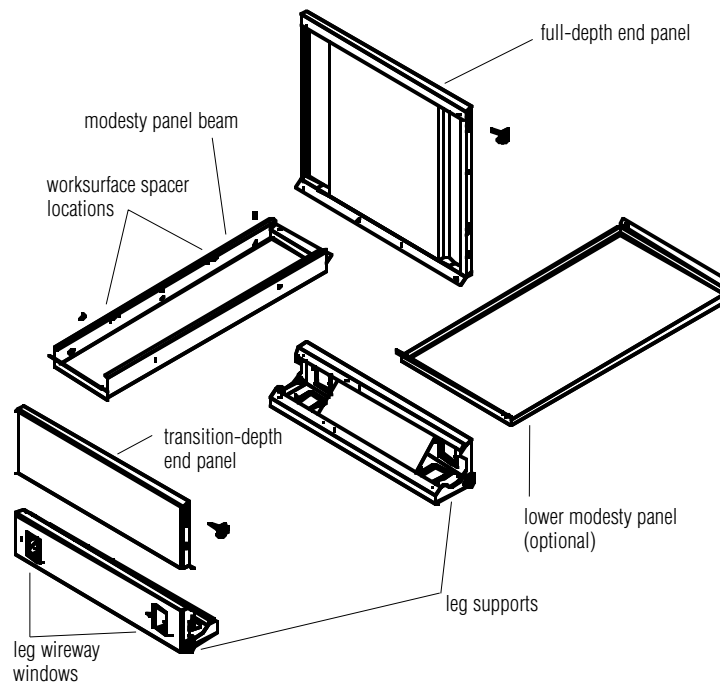

Figure 1
1. Remove all components from carton and locate hardware pack. Assemble one glide to each leg support on end with single-threaded inset. Attach leg wireway windows from inside of leg by hooking the long lip onto the rectangular cutout in leg support, flex the short lip slightly to clear cutout and push into place (Figure 1).
2. Place two leg supports on a soft surface approximately the same width as the desk. The open face of the triangular support should face up and toward the center of the workstation. Place a modesty panel beam between the leg supports, aligning holes in each flange with those of the leg supports. Secure with four 1/4" -20 x 1/2" screws (Figure 1).
3. Refer to space plan to determine whether the unit is to have full- or transition-depth end panels and their location. Align holes in end panel flange with those of the leg support. Secure with three 1/4" -20 x 1/2" screws. Assemble glide to the threaded insert facing the same direction as the leg support glides and adjust to approximately the same height (Figure 1).
4. If required, install lower modesty panel below modesty panel beam by aligning holes in each flange with those of the leg supports. Secure with four 1/4" -20 x 1/2" screws (Figure 1).